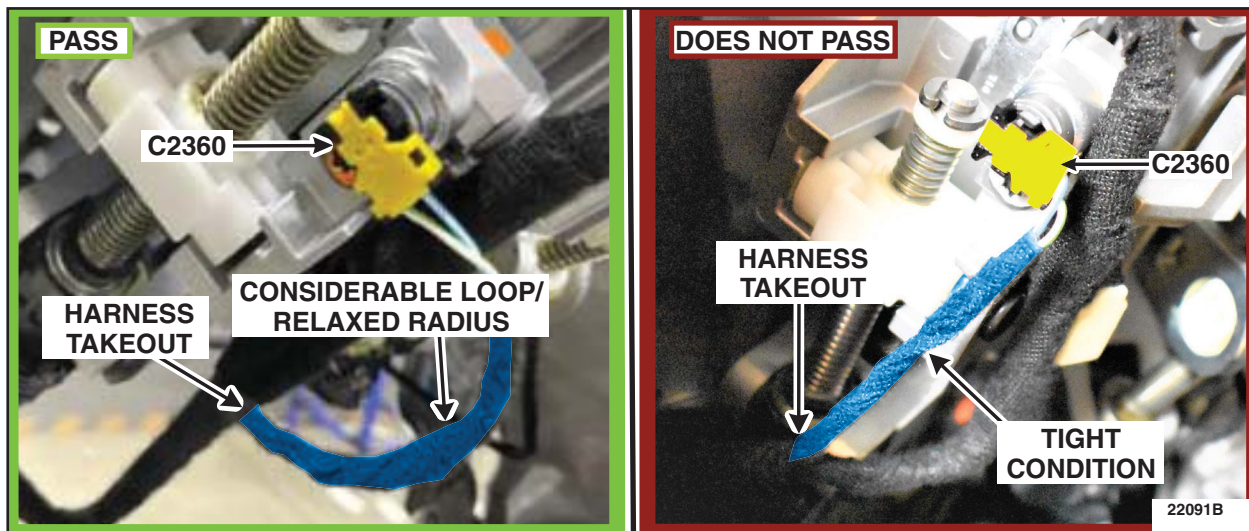

FIGURE 3
- Does the deployable column wiring harness takeout exhibit a tight condition as shown in the 'Does Not Pass' image of Figure 3 or is C2360 visibly damaged?
- Has the deployable column wiring harness takeout developed a tight condition as shown in the 'Does Not Pass' image of Figure 3?